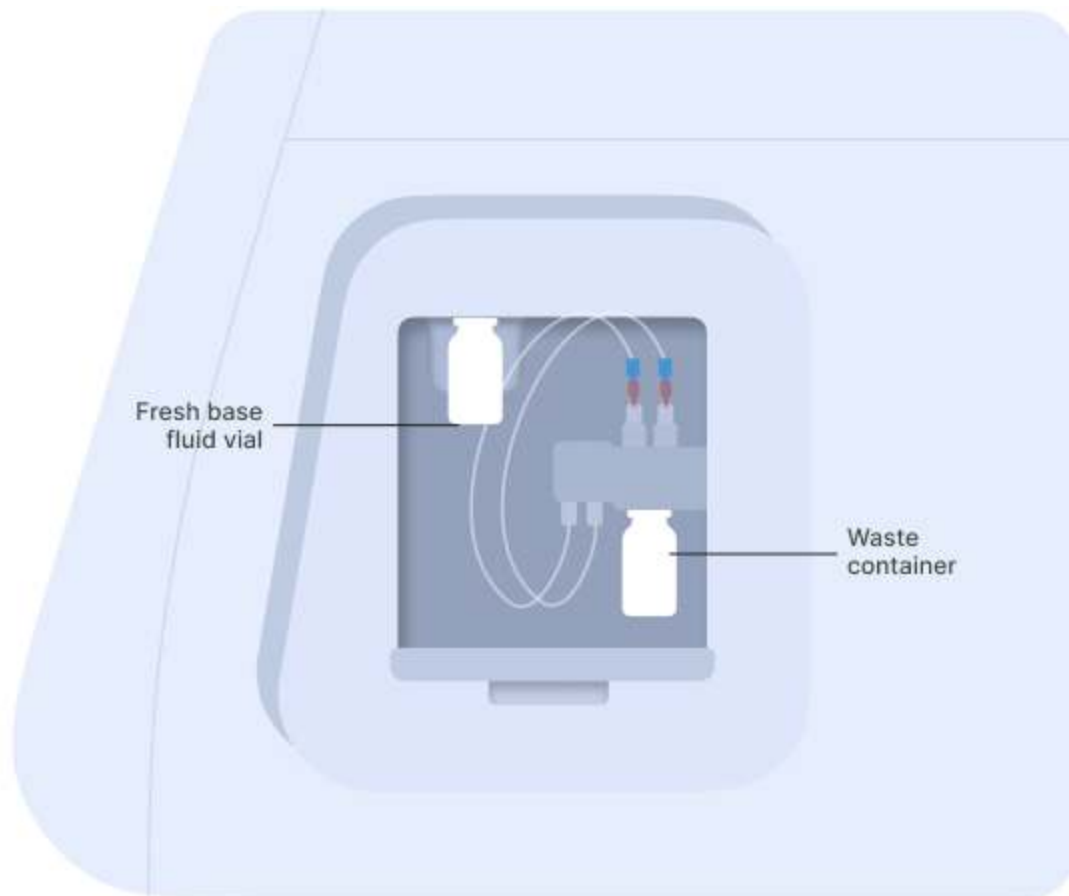

Figure 5: Vial of base fluid and the waste container connected to the pump as shown on the screen
► In anticipation of starting a new experiment, take a fresh vial of base fluid, open it, and connect it to the left holder on the eProtein Discovery instrument pump module (Figures 5 and 6).